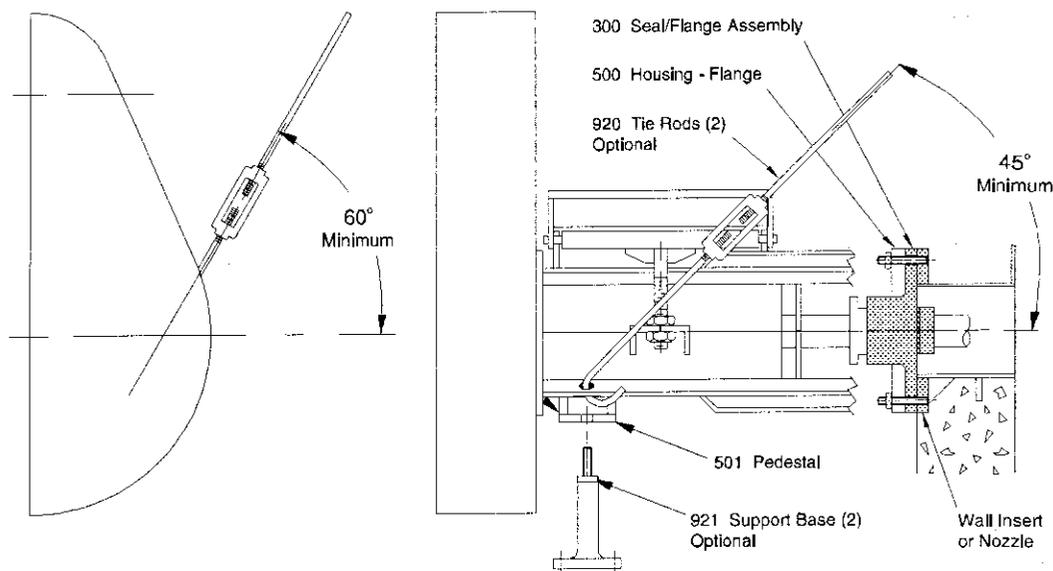

Figure 4: Optional Installation Methods
Besides the regular pedestal support base, the Prochem MD agitator can also be supplied with optional pipe legs (921) or optional tie rods (920), *Figure 4*. These optional support devices are supplied on agitators with 2" diameter shafts or smaller.
tank end of the 1/2" dia. tie rods are supplied unfinished for attachment to the tank by others. Install into position as shown in *Figure 4*. Use the turn buckle on each rod to obtain the final position.